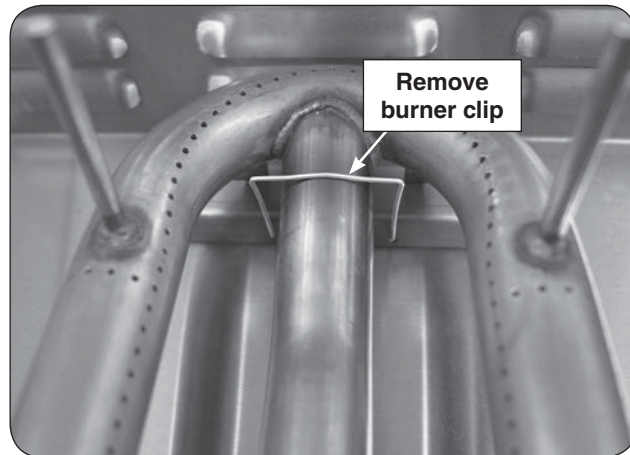

Fig. 29-1 Main burner removal
2. Locate the burner clip (located over the rear center tube of the burner) and slightly pinch and remove the clip from the burner support. See Fig. 29-1.